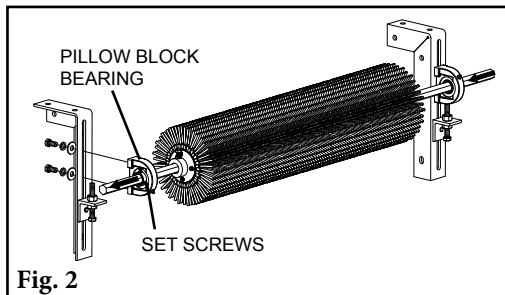

Fig. 2
2. **Remove worn drum.** Loosen set screws on both pillow blocks. Then remove the pillow block bearing from the mounting bracket on one side. Slide the drum and shaft out of the second pillow block (Fig 2).